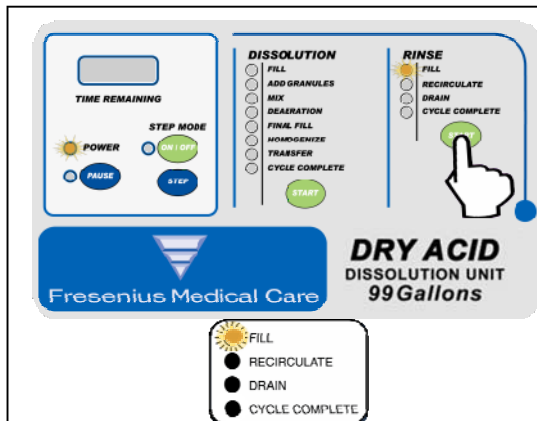

Figure 2
2. The RINSE CYCLE consists of two RINSE Operations. Press the Rinse START button. The Fill Indicator Light will illuminate indicating the RINSE CYCLE has started and the Dry Acid Dissolution Unit is in FILL Operation (Figure 2). Lift the Access Lid and look into the tank to verify that the tank is filling.